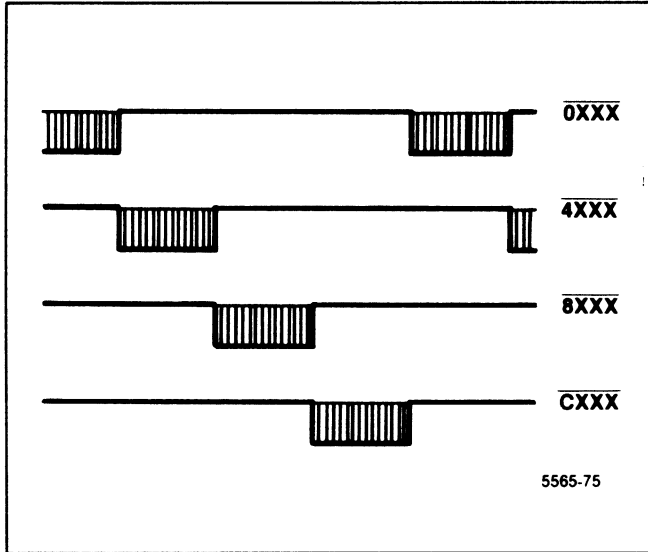

Figure 6-25. Four main block select outputs of address decoder U2045.
**Memory Address Decoders** — Address decoder U2045 on the Memory board sets its outputs low in turn to access blocks of memory space. The four main block-select outputs are shown in Figure 6-25.